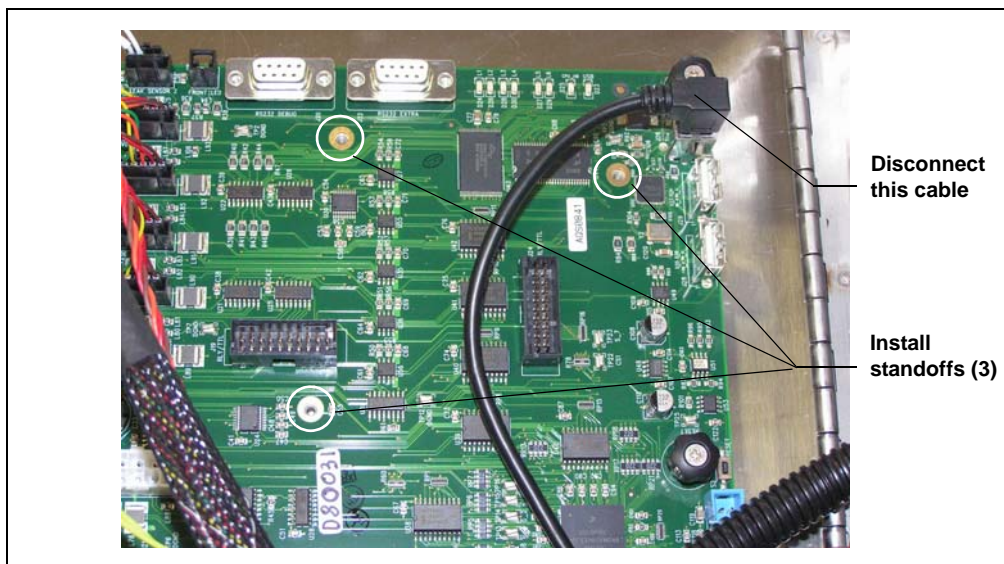

Figure C-1. SP Electronics Board (Horizontal SP Enclosure Shown)
3. Disconnect the cable at the top right corner of the SP electronics board (see Figure C-1).
4. Screw the three standoffs into the SP electronics board at the locations indicated on Figure C-1.